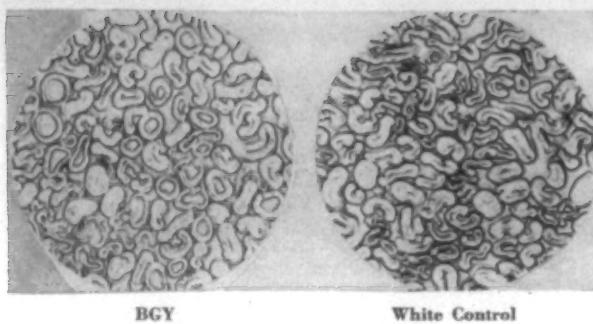

Fig. 1—Cross-sectional photomicrographs of BGY spotted and white control cottons.
Microscopic Evaluations: Fig. 1 shows cross-section photomicrographs of the BGY and white control cottons. The "doughnut" fiber was originally noted by Bailey (4) and subsequently shown to be caused by *Aspergillus flavus* (14) readily identifiable by a bright greenish-yellow fluorescence. A further examination of this matter in the present investigation has disclosed that the "doughnut" fiber condition is typical of cotton which has suffered microbial damage in the field in the tight lock condition (17) and can be brought about in the laboratory by pure culture incubation of undried fiber with any of several micro-organisms. The cotton sample which was examined was the spotted and not the white cotton in the bale classed as light spotted so the large predominance of doughnut fiber is expected. When this bale is blended with white cotton, the percentage of "doughnut" fibers probably becomes less than 1% and their reported adverse